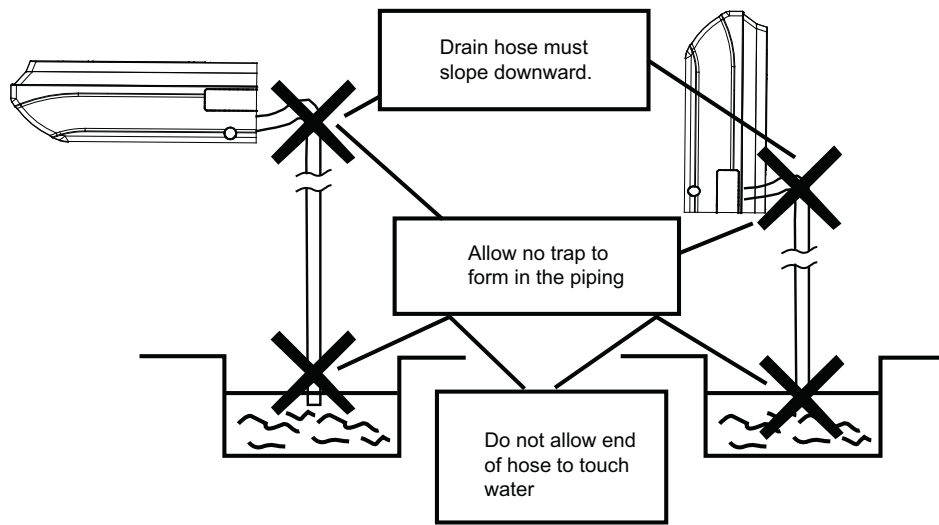

Fig.23
- (1). Keep piping as short as possible and slope it downwards at a gradient of at least 1/100 so that air may not remain trapped inside the pipe.
- (2). Keep pipe size equal to or greater than that of the connecting pipe.
- (3). Install the drain piping as shown and take measures against condensation. Improperly rigged piping could lead to leaks and eventually wet furniture and belongings.
(4) Connect the drain hose.(Fig.23)